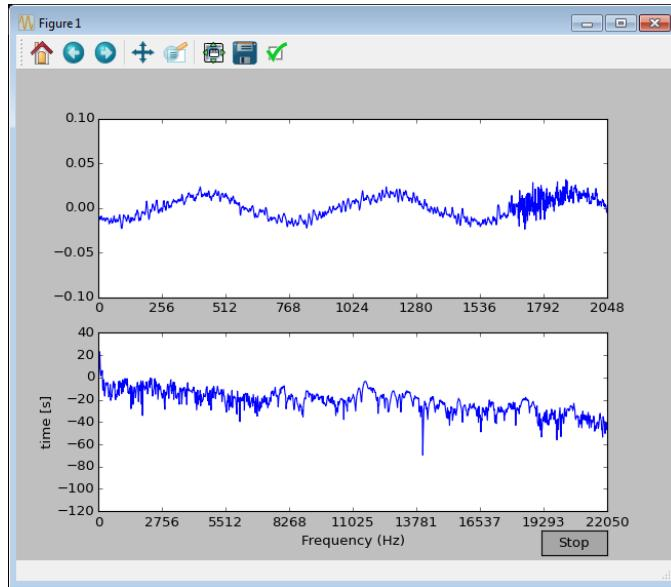

Figure 16: Screen capture of the microphone signal capture program.
- (a) If you are using the lab computer, you can run the program from the Spyder IDE that comes with the Anaconda Python distribution. If you do so, make sure that you run the program under the Python console rather than the IPython console. You could also run the program from the command line by “python real-time\_audio\_analysis.py”. You should expect to see a new window popping up that displays the sampled input signal and its frequency spectrum in real time (Fig. 16).